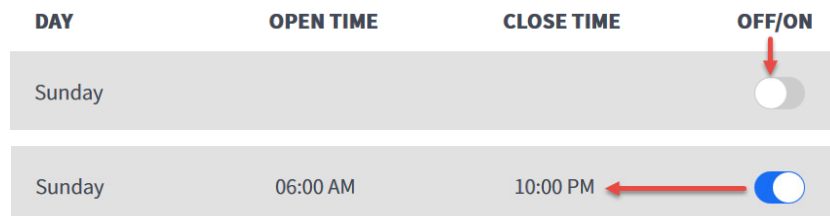

Fig. 1.11
**ON/OFF Switches:** Click on the **OFF/ON** switch to turn an option ON (if its current status is off) or OFF (if its current status is on). Some fields are invisible in the OFF position but become visible when turned ON (see OPEN TIME and CLOSE TIME columns in Fig. 1.11).